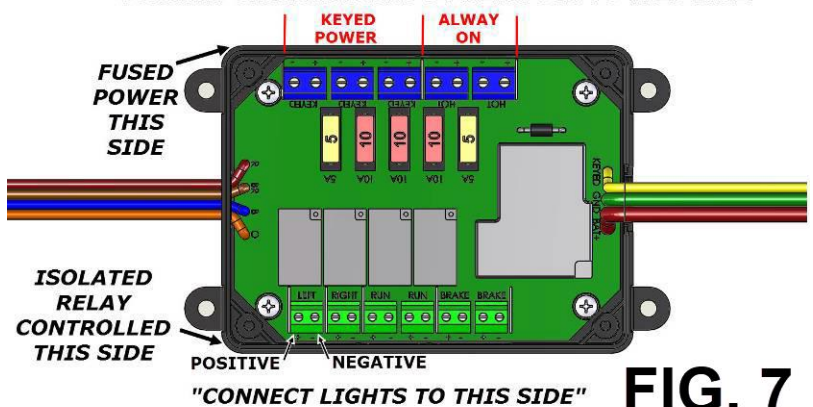

FIG. 7
19. USING **FIG. 7** AS A GUIDE LEARN WHAT EACH TERMINAL CONNECTOR IS TO BE USED FOR WHEN ATTACHING ACCESSORIES. *NOTE: THE ISOLATOR BOX COVER ALSO HAS A DIAGRAM FOR THE TERMINAL BLOCKS.*